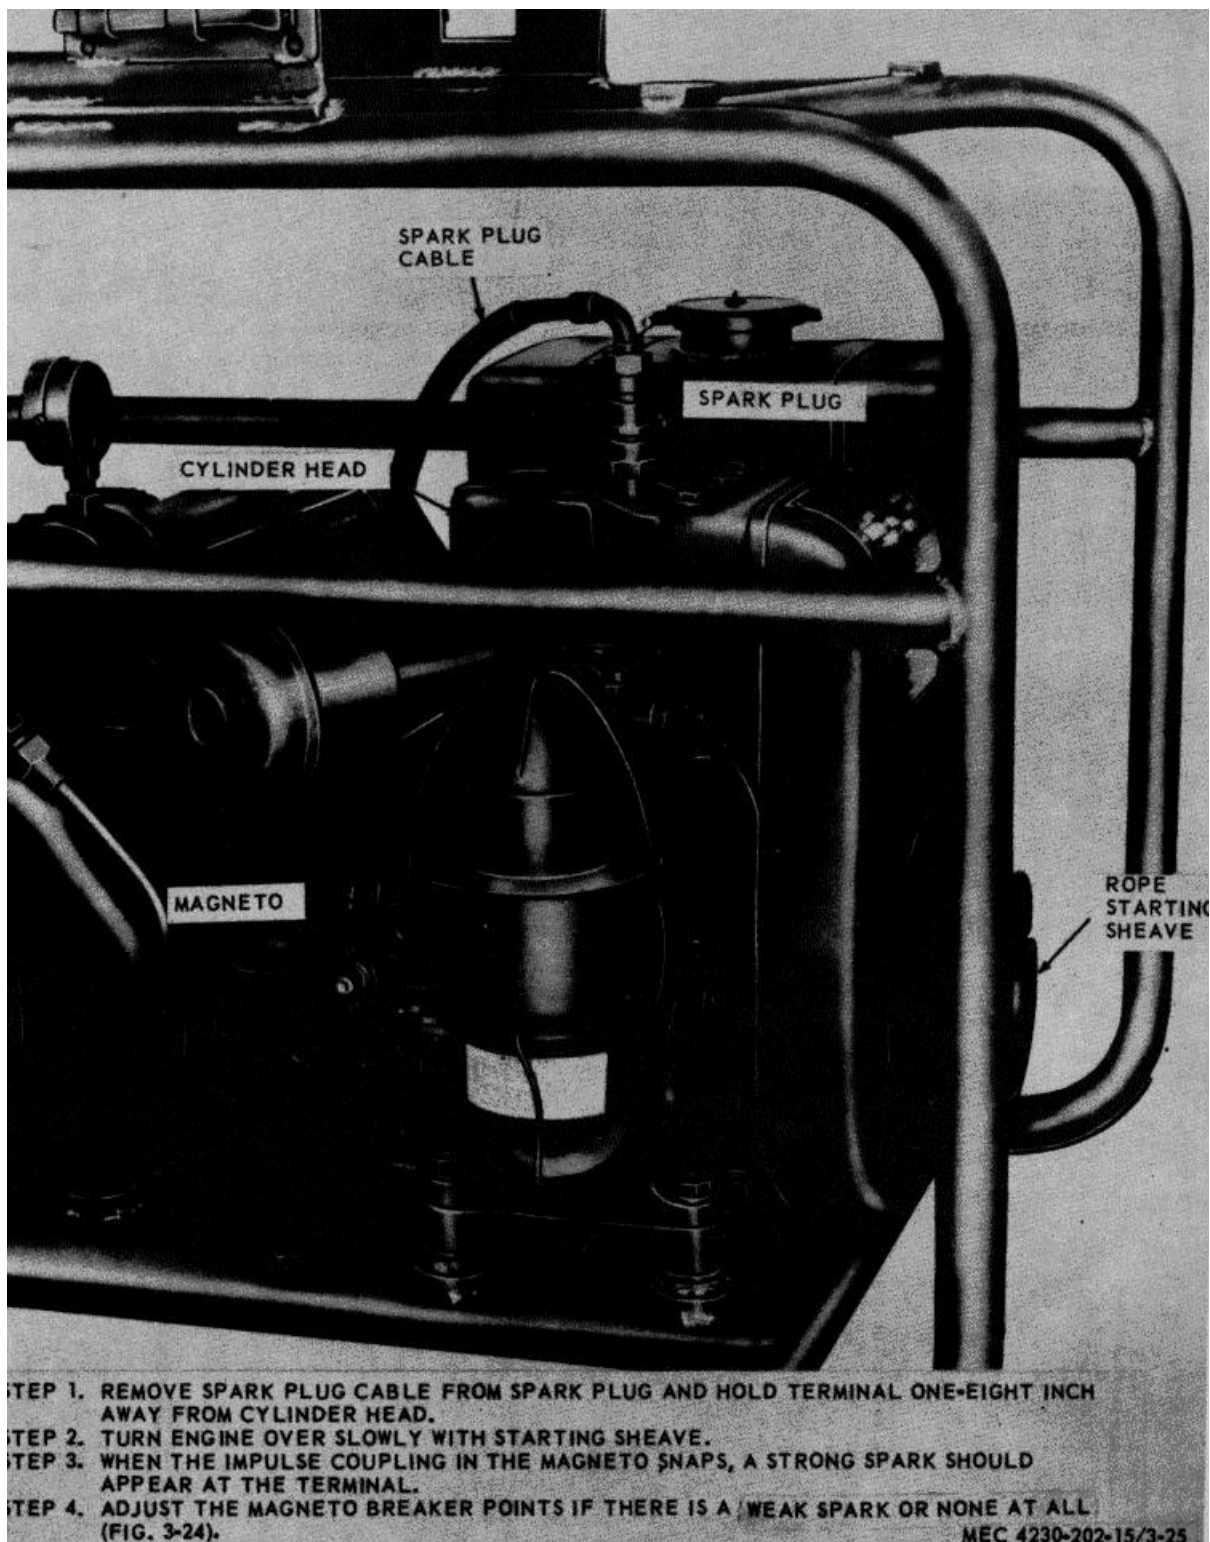
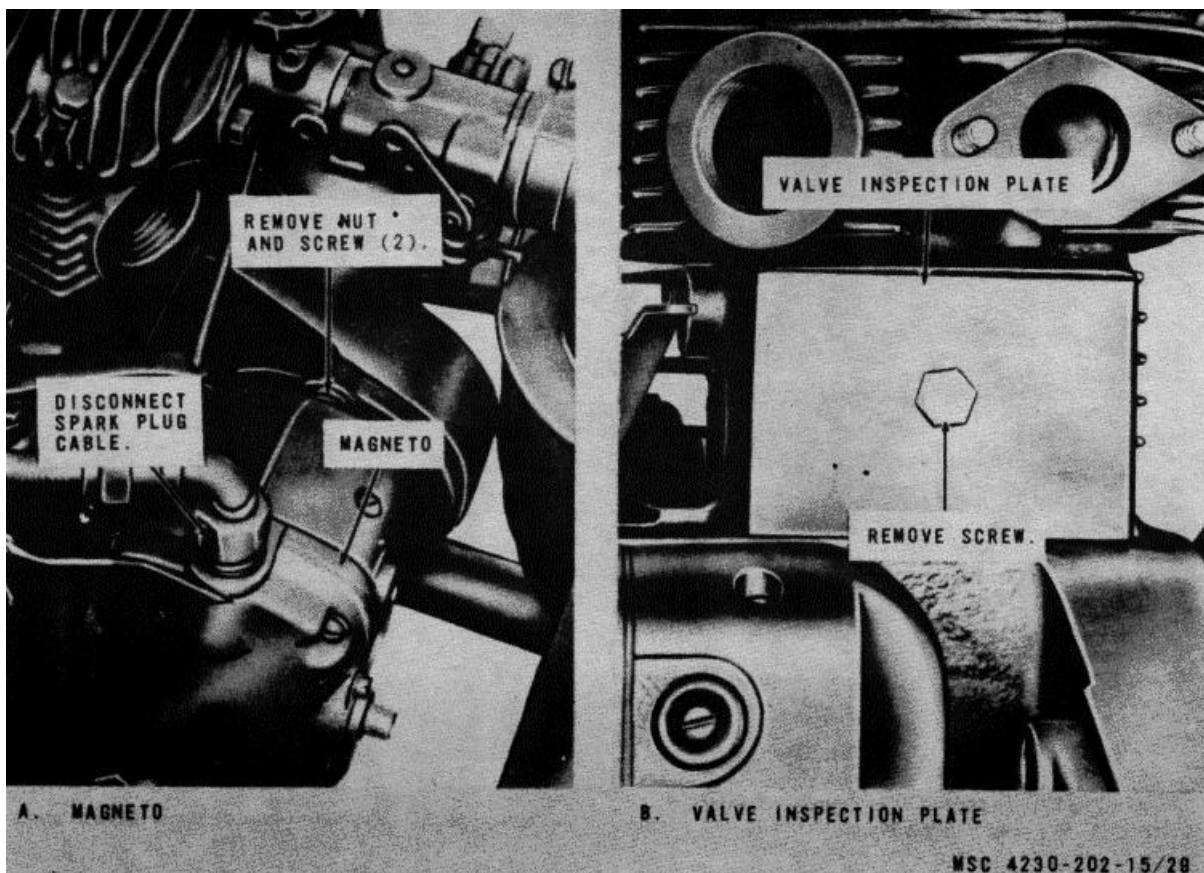

Figure 3-21. Testing magneto ignition spark
Figure 3-22. Magneto and valve inspection plate, removal and installation
a. Magneto Spark Ignition Testing. Refer to figure 3-21 and test the magneto ignition spark.
- (1) Remove the flywheel shroud (para. 3-35).
- (2) Refer to figure 3-22 and remove the magneto and valve inspection plate.
- (1) Refer to figure 3-22 and install the magneto.
- (2) Install the flywheel shroud (para. 3-35).